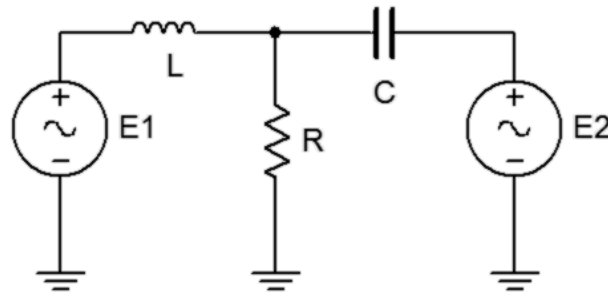

Figure 10.1
1. Typical function generators have a  $50\ \Omega$  internal impedance. These are not shown in the circuit of Figure 10.1. To test the Superposition Theorem, sources  $E1$  and  $E2$  will be examined separately and then together.
2. Consider the circuit of Figure 10.1 with  $C=1\ \mu\text{F}$ ,  $L=10\ \text{mH}$ ,  $R=1\ \text{k}\Omega$ , using only source  $E1=2\ \text{V p-p}$  at  $1\ \text{kHz}$  and with source  $E2$  replaced by its internal impedance of  $50\ \Omega$ . Using standard series-parallel techniques, calculate the voltages across  $E1$ ,  $R$ , and  $E2$ . Remember to include the  $50\ \Omega$  internal impedances in the calculations. Record the results in Table 10.1.
3. Build the circuit of Figure 10.1 using  $C=1\ \mu\text{F}$ ,  $L=10\ \text{mH}$ , and  $R=1\ \text{k}\Omega$ . Replace  $E2$  with a  $50\ \Omega$  resistor to represent its internal impedance. Set  $E1$  to  $2\ \text{V p-p}$  at  $1\ \text{kHz}$ , unloaded. Make sure that the *Bandwidth Limit* of the oscilloscope is engaged for both channels. This will reduce the signal noise and make for more accurate readings. Place probe one across  $E1$  and probe two across  $R$ . Measure the voltages across  $E1$  and  $R$ , and record in Table 10.1. Record a copy of the scope image. Move probe two across  $E2$  (the  $50\ \Omega$ ), measure and record this voltage in Table 10.1.
4. Consider the circuit of Figure 10.1 using only source  $E2=2\ \text{V p-p}$  at  $10\ \text{kHz}$  and with source  $E1$  replaced by its internal impedance of  $50\ \Omega$ . Using standard series-parallel techniques, calculate the
6. Consider the circuit of Figure 10.1 using both sources,  $E1=2\ \text{V p-p}$  at 1 kHz and  $E2=2\ \text{V p-p}$  at 10 kHz. Add the calculated voltages across  $E1$ ,  $R$ , and  $E2$  from Tables 10.1 and 10.2. Record the results in Table 10.3. Make a note of the expected maxima and minima of these waves and sketch how the combination should appear on the scope
8. Build the circuit of Figure 10.1 in a simulator. Using Transient Analysis, determine the voltage across the resistor and compare it to the theoretical and measured values recorded in Table 10.3. Be sure to include the  $50\ \Omega$  source resistances in the simulation.